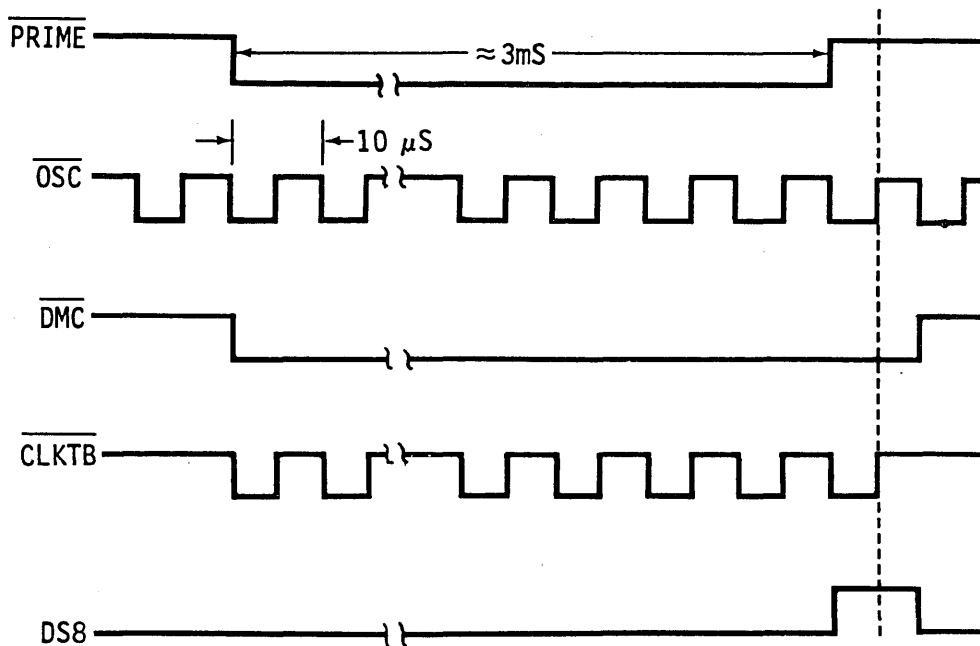
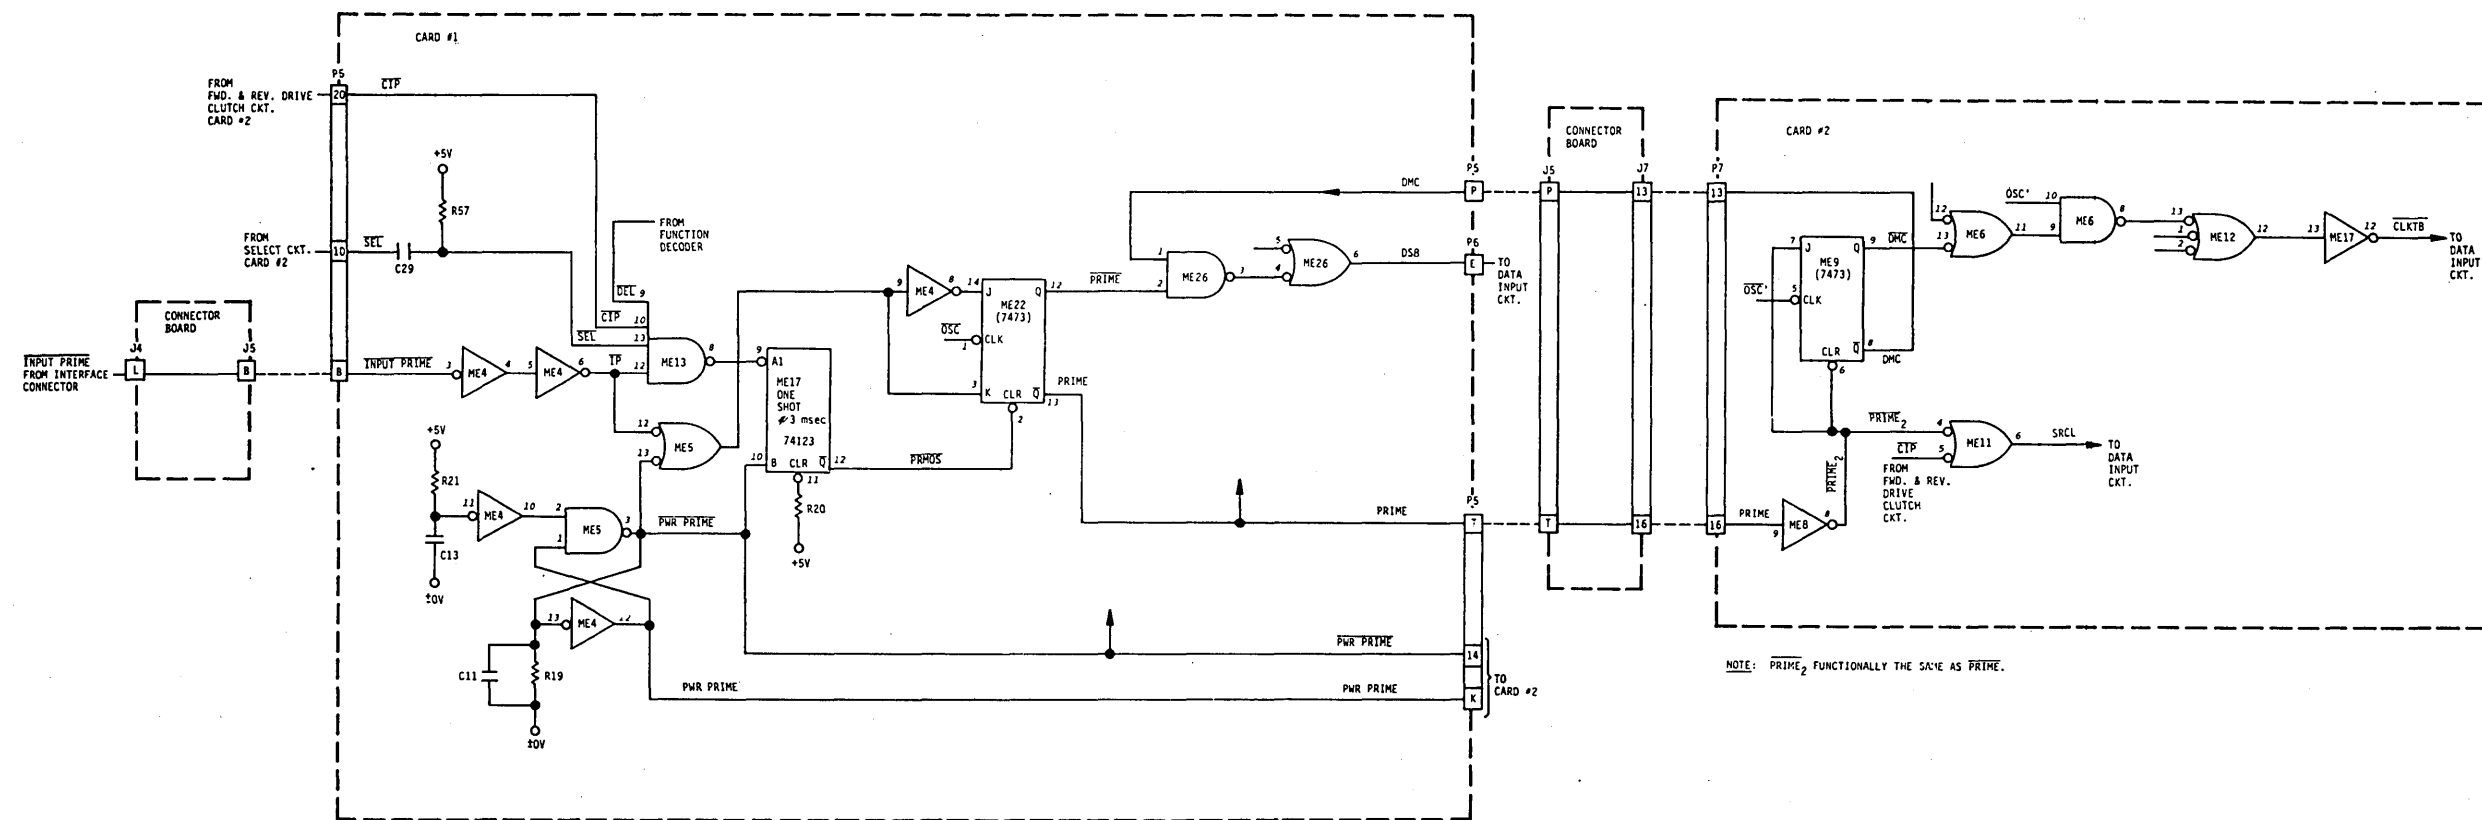

Figure 4-4. PRIME TIMING
Figure 4-5. PRIME CIRCUIT
4.3.1 PRIME CIRCUIT (FIGURE 4-4, TIMING; FIGURE 4-5, CIRCUIT)
The prime circuit resets the printer logic, clears the buffer, and places a dummy character in the first character position in the buffer. A timing diagram of the prime timing is shown in Figure 4-4.